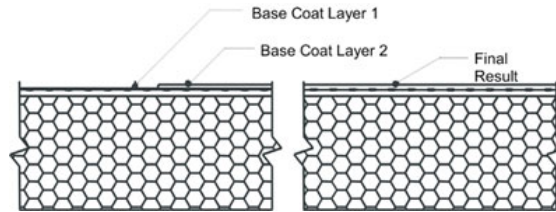

Fig. 3
- a. The base coat shall be applied such that the resulting overall minimum base coat thickness is sufficient to fully embed the reinforcing mesh. The recommended method is to apply the base coat in two (2) passes.
- 3) Allow the base coat mixture to take up until firm to the touch. Trowel a second tight coat of the base coat mixture over the first coat to fully cover the reinforcing mesh - Figure 3. The result should be such that the reinforcing mesh is approximately centered within the base coat thickness. Do not allow the first pass to completely dry prior to the second pass application or an excessive amount of base coat mixture will be necessary to fully coat the wall surface.